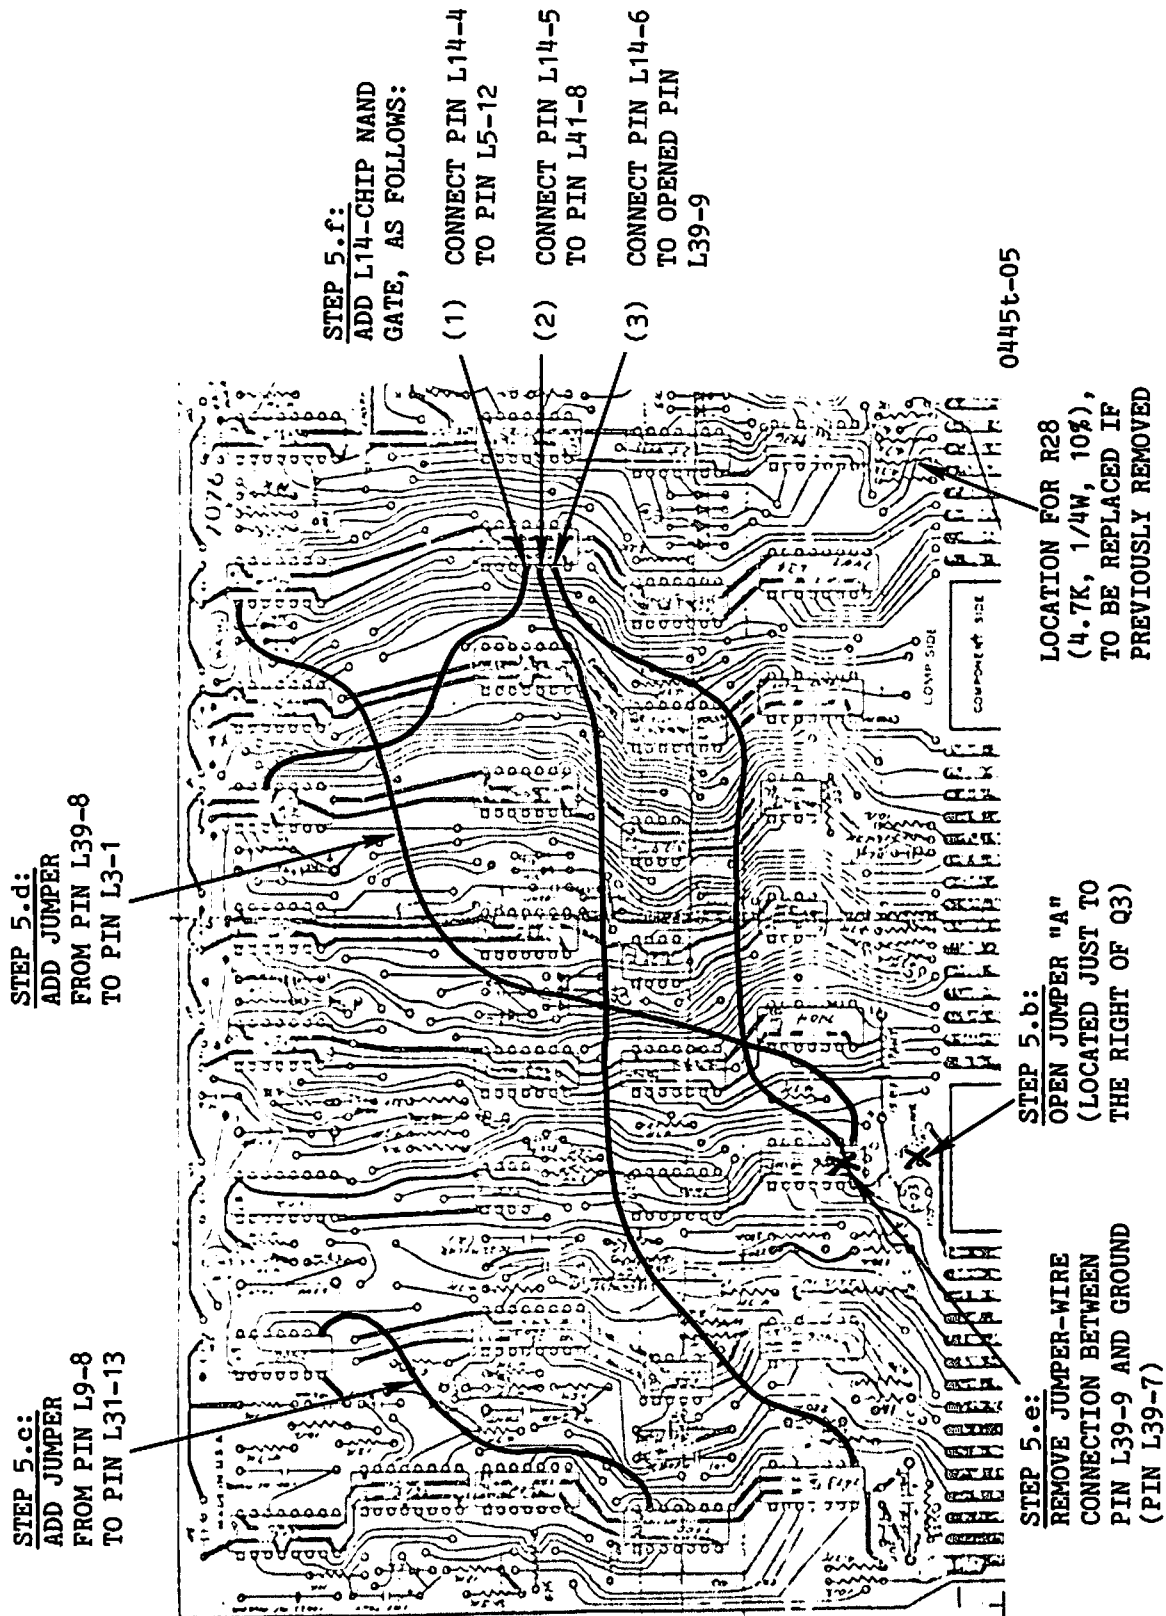

Figure 5. Modifications to be Made on Component Side of #210-7076
- b. On the component side of the card, cut or remove jumper "A" (located directly to the right of Q3), opening the SLCTR input at pin 1 of connector 3 (see Figure 5).